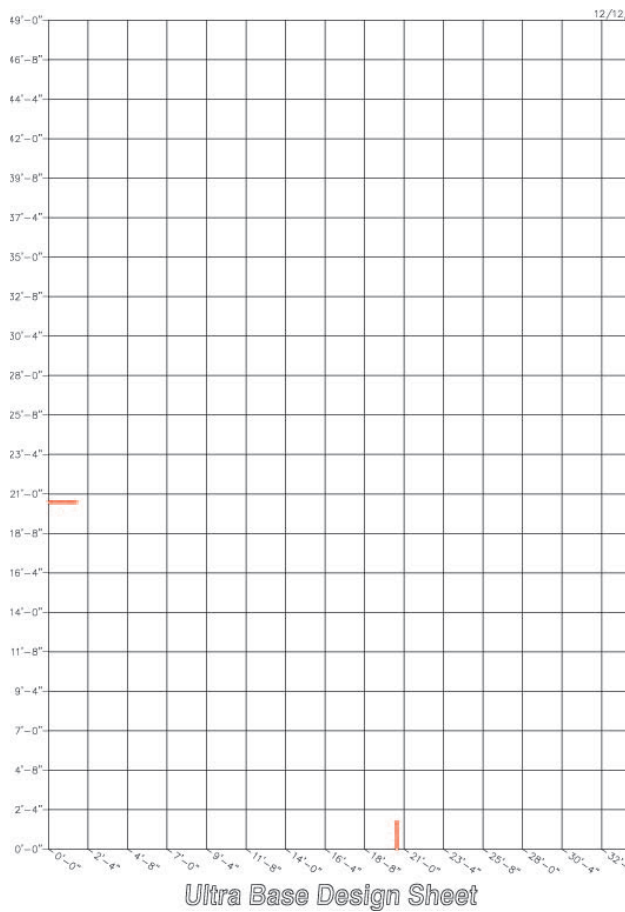

Figure 2.1
- Starting in the bottom left corner, count up the left side to the desired length and put a mark. (Figure 2.1)
- Starting in the bottom left corner, count along the bottom to the desired width and put a mark. (Figure 2.1)